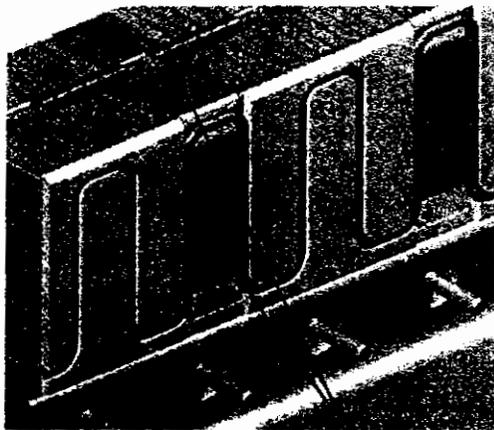

Figure 22- Bag Mold Preparation -3
- 6.33.6 Install G-10 pressure pads in the areas where the final coil clamps will be placed. (Figure 22- Bag Mold Preparation -3